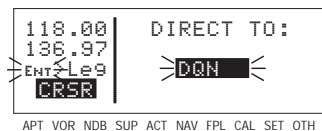

Figure 4-42
3. Press **▶**. The display will change to the Direct To Page (figure 4-42), with the identifier of the selected waypoint.